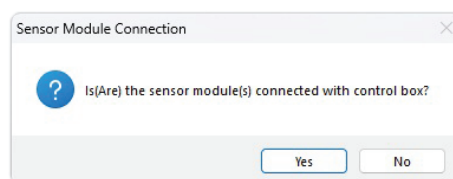

Figure 17. Select RS485 from the drop down menu
5. Next, click “No” button as in Figure 17.